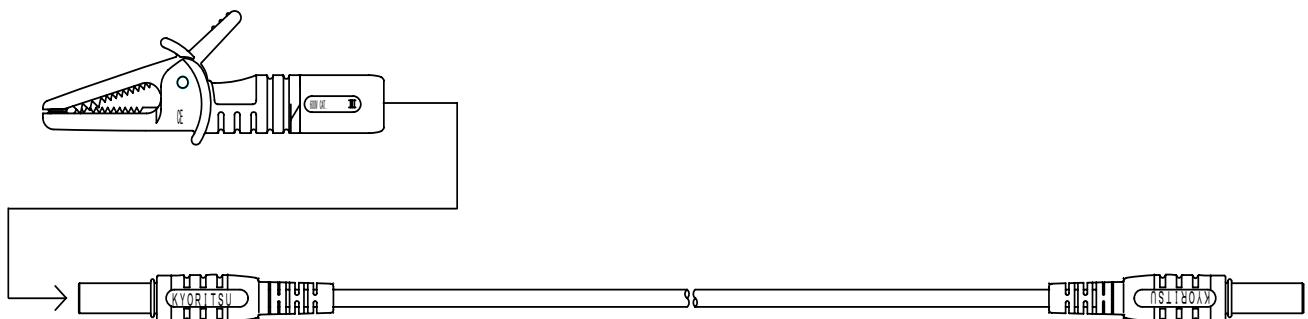

Fig.4
- (1) Unscrew and remove (1) shown in Fig.4 and remove the Tip pin.
- (2) Install the Long pin and tighten (1).